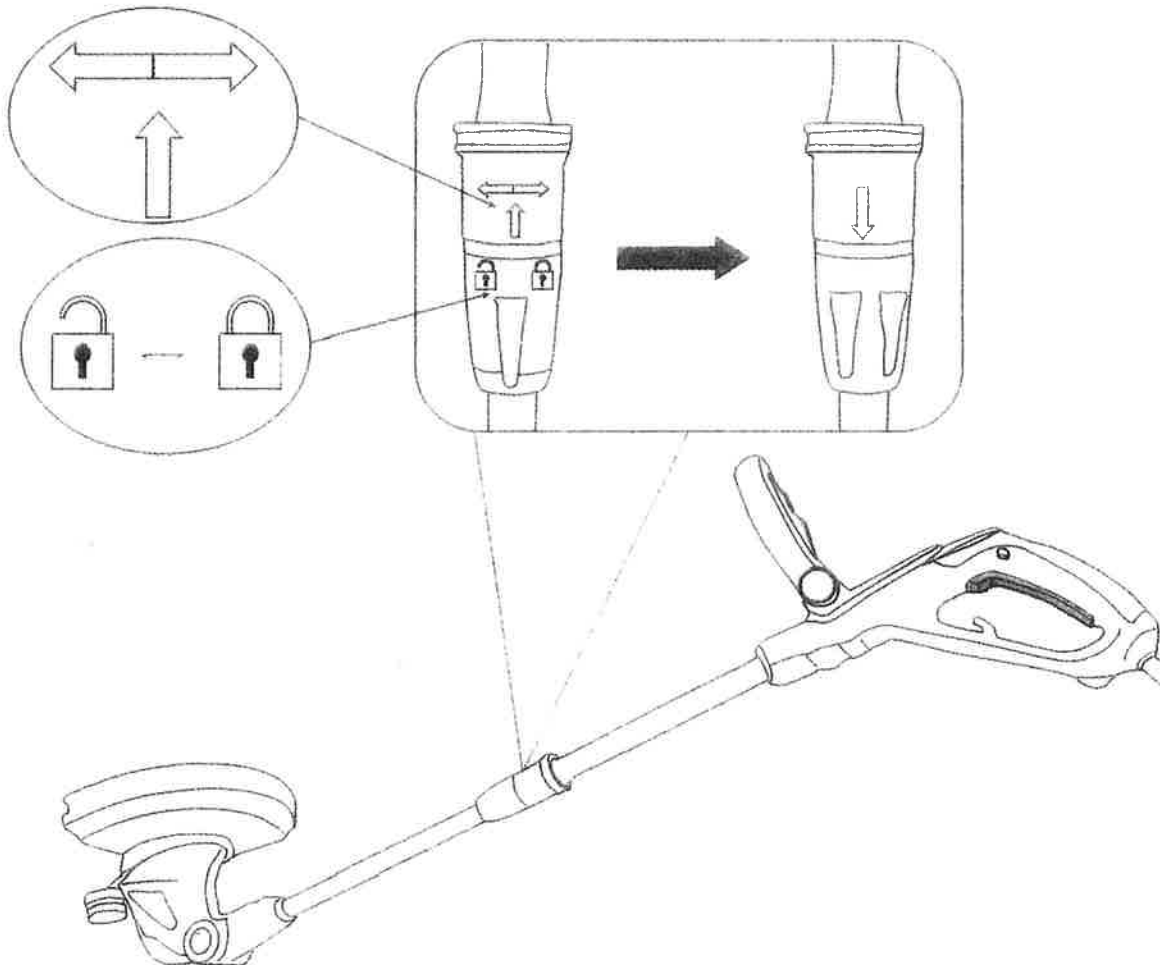

Fig.8
2. Rotating the edging knob (6) , and then turn the shaft , as you hear the 'click' sound. (Fig.8)
3. Now the trimmer can be used as the edge cutter. (Fig.8)